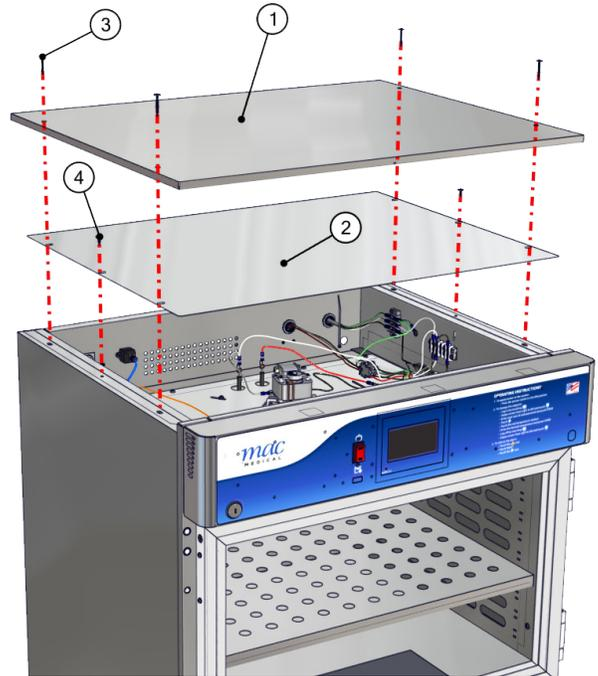

Fig. 1: Remove top panels
1. Remove four 8 X 1-5/8" self-tapping screws (Table 1, Item 4) from outside Top Panel (Table 1, Item 1). Remove outside Top Panel and set aside (Fig. 1).
5. Re-attach the inner and outer top panels and secure each with its screws (Fig. 1).